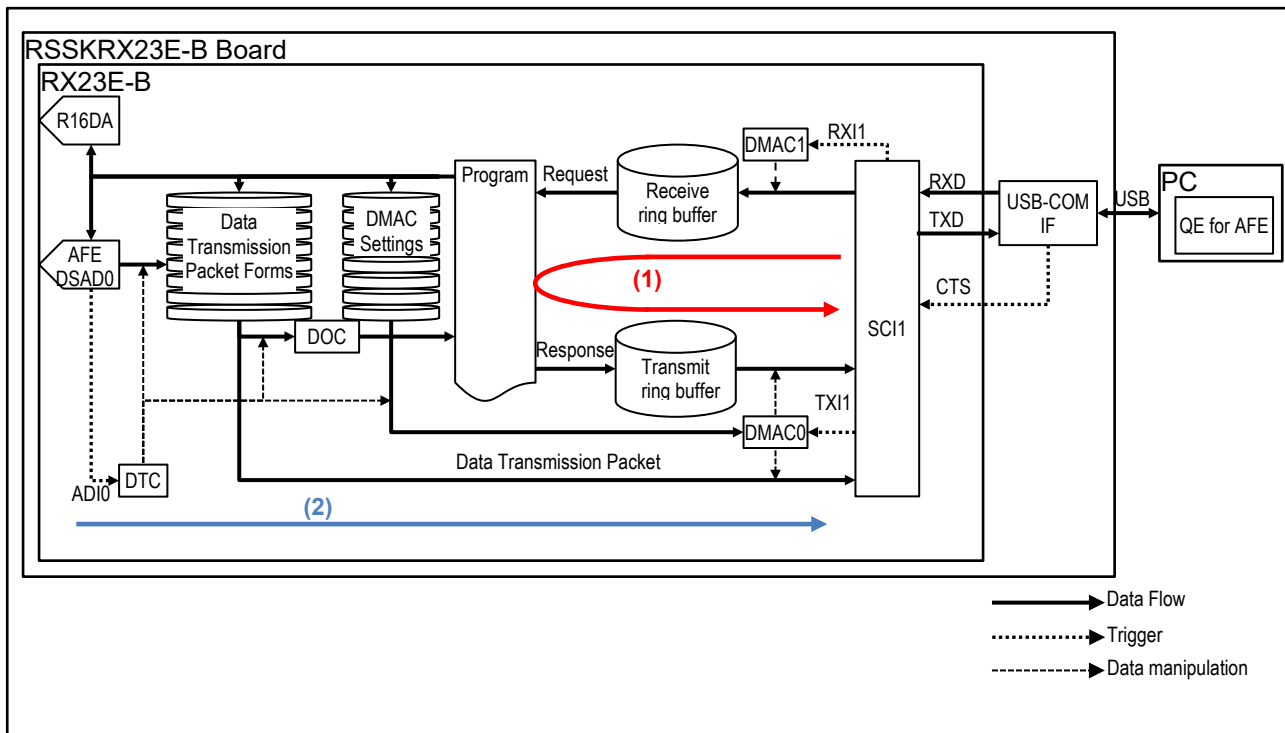

Figure 1-1 This Program and Data Flow
This program operates at MCU RX23E-B on the RSSKRX23E-B board, communicates with QE for AFE in UART via USB, and provides functions to set registers of AFE, DSAD, and R16DA, start and stop A/D conversion, and Tabacquire and transmit the A/D conversion value based on the command from QE for AFE. Figure 1-1 shows the data flow related to QE for AFE communication.
The following describes the data flow (1) and (2) in Figure 1-1.
(1) Command and response from/to QE for AFE